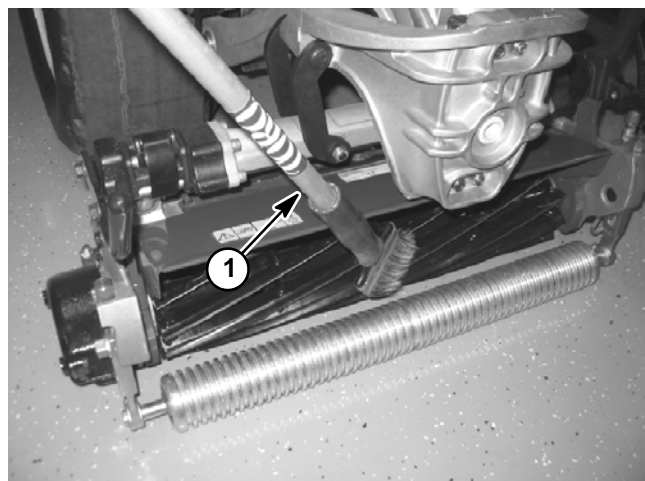

Figure 13
7. Apply lapping compound with a long handle brush (see Special Tools in this chapter) (Fig. 13). Never use a short handled brush to apply lapping compound.